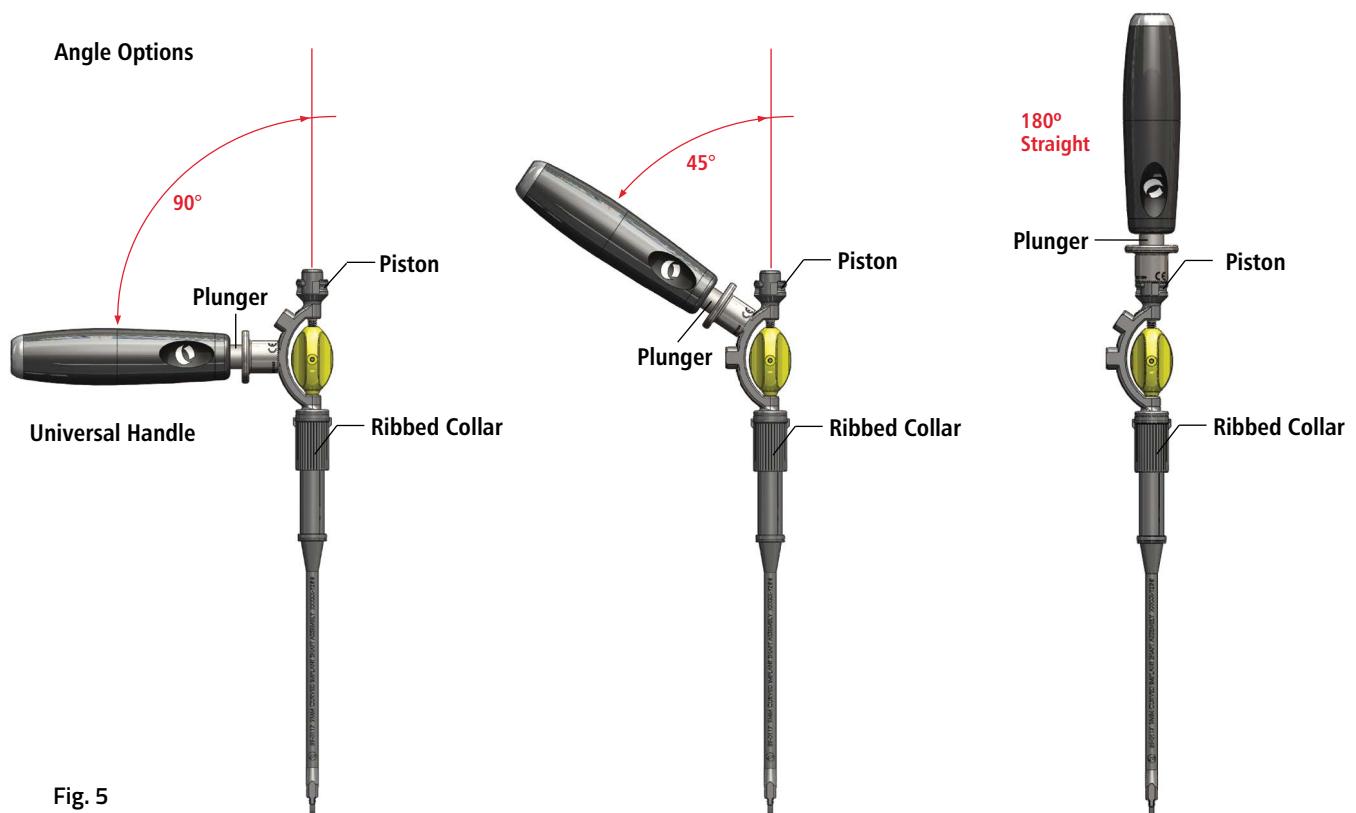

Fig. 5
Due to the modularity, options for the Modular Implant Inserter include four (4) different shafts and three (3) handle angle positions. The shafts are for straight and curved spacers in 9mm and 11mm widths. The handle angle options are 180°, 90°, and 45°. (Fig. 5)